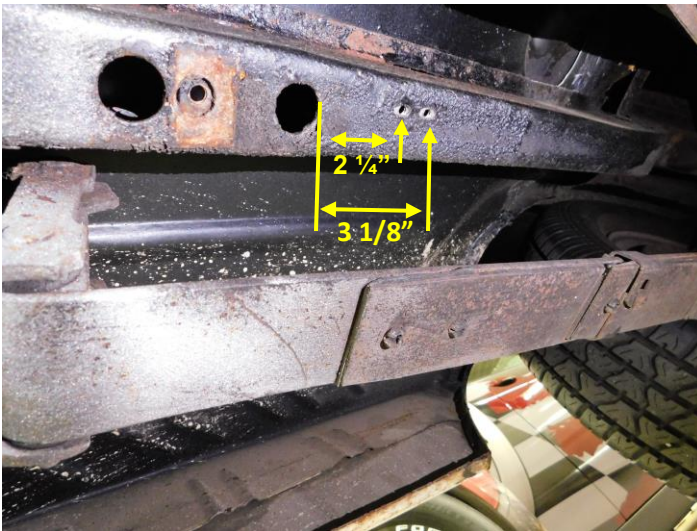
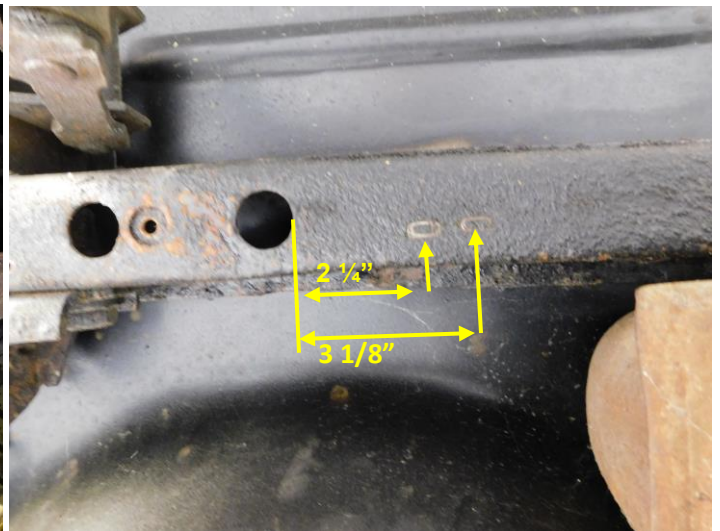
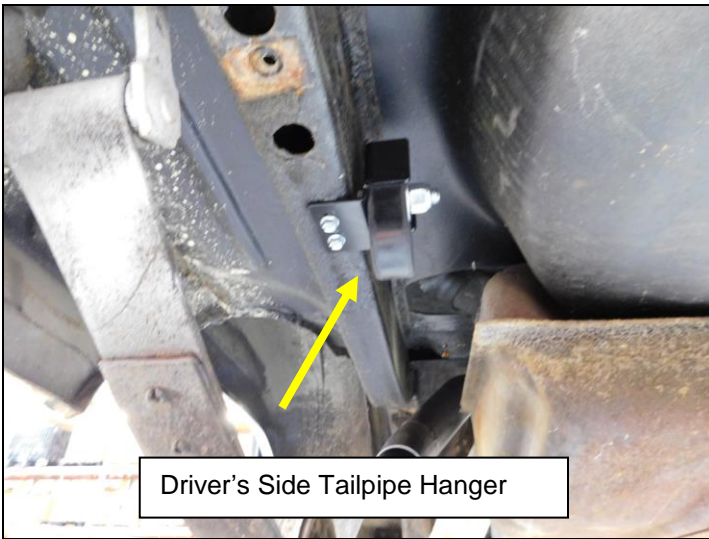

Figure 4
Figure 5
Figure 6
6. Measure from the front edge of the hole in the frame rail to 2-1/4" as shown in (Figure 4) below and mark the location. Measure 3-1/8" out from the leading edge of the hole and mark that location. Place the hanger bracket over the marks and align the bracket slots with the reference marks centered in the slot. The bracket faces up with the bolt head against the frame rail (Figure 6). Trace the slots in the bracket with a sharp awl or scribe onto the frame rail (Figure 5). Make sure the 1/2" bolt head is tight against the frame rail during this process
10. Use the supplied 1/4-20 thread cutter bolts and anchor the tailpipe hanger bracket to the frame rail as shown in (Figures 6 & 7). An impact driver can be used to start the thread cutter, but **DO NOT** tighten the bolts with an impact driver. Apply Loctite® to the threads of the bolt and tighten by hand to approximately 20ft./lbs.